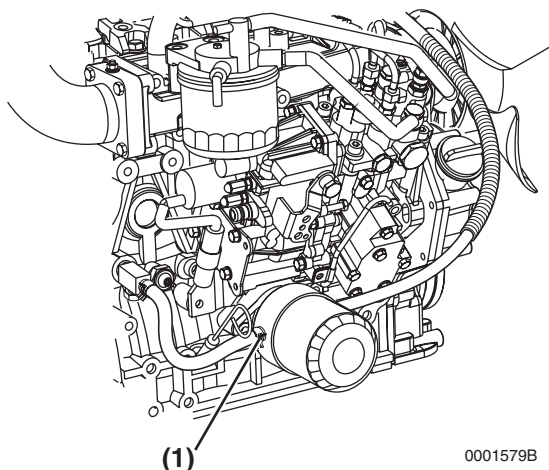

Figure 5-18
- On models equipped with an oil cooler, remove the coolant hose **(Figure 5-18, (1))** at the oil cooler.